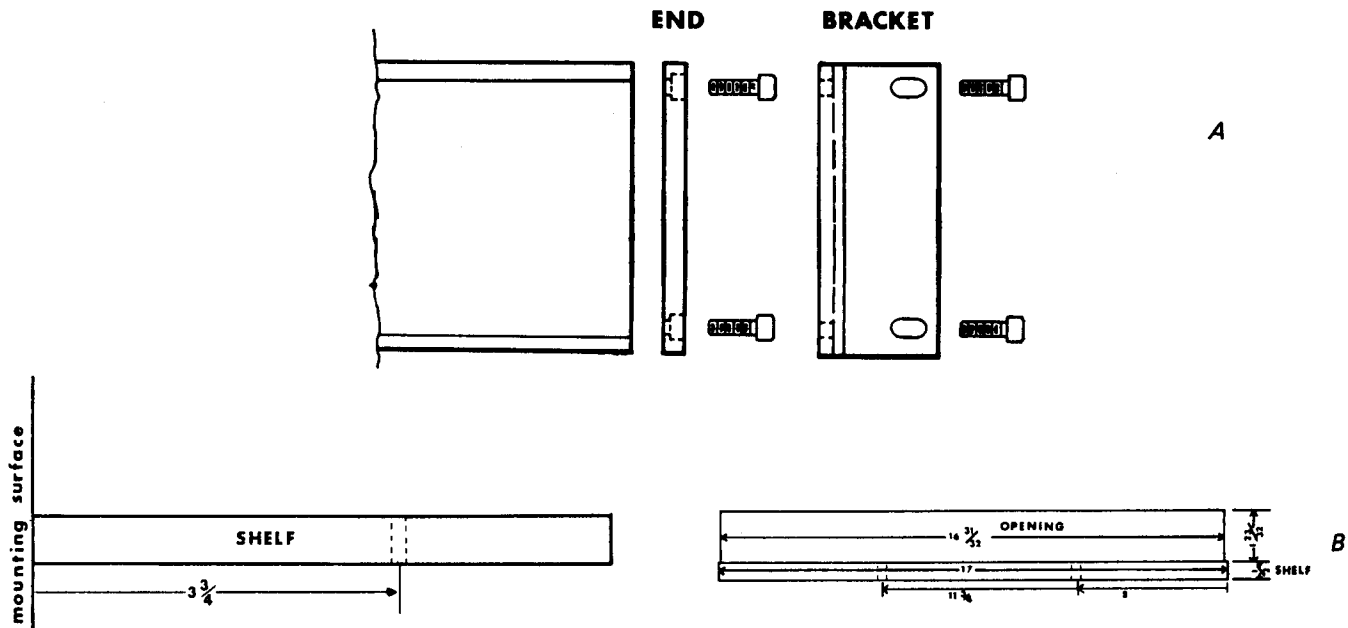

FIGURE 3-2
Included with the D-60 is a rack-mount kit. The standard D-60 may be converted for 19" rack mounting by replacing the end bars with rack-mounting brackets as shown in Figure 3-2, A.
**Shelf Mounting** — To shelf-mount the D-60 (with optional end bars) refer to Figure 3-2, B and: